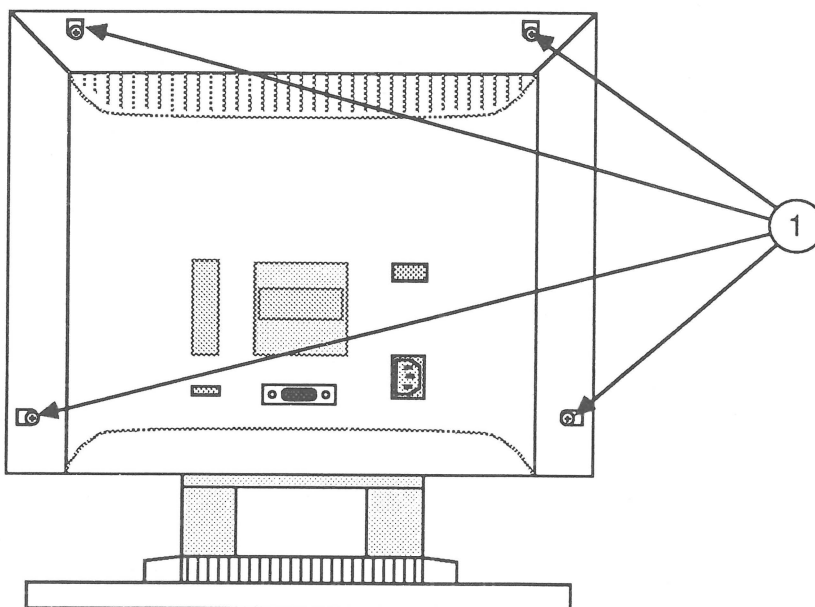

FIGURE 3
2. Remove the four cover screws (Figure 3, #1).
2. Replace the four cover screws (Figure 3, #1). **Be careful not to overtighten the screws!**